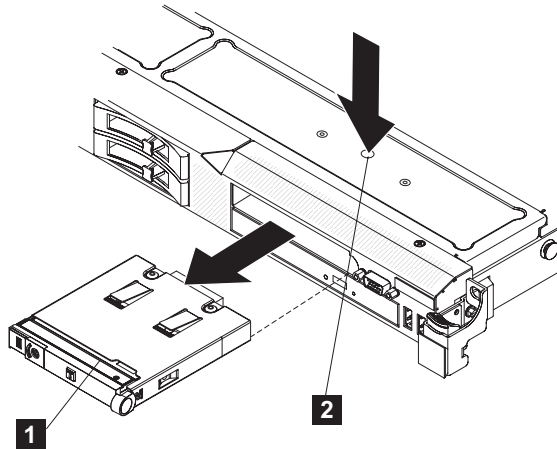

Figure 205. Using the release tab to remove the SAN Volume Controller 2145-CF8 operator-information panel
7. Use an object to push down on the release tab (**2** in Figure 205).